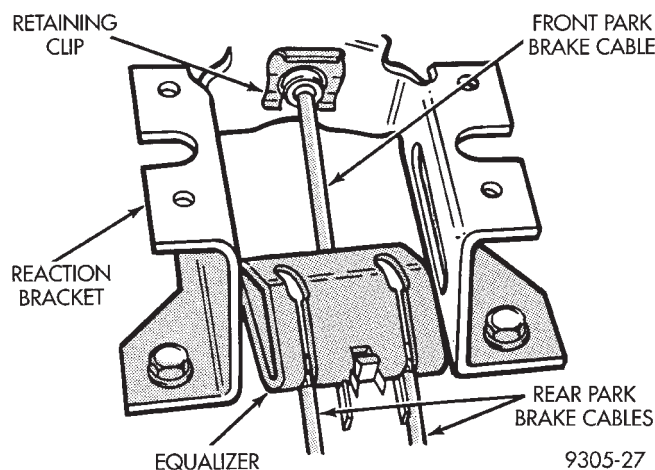

Fig. 14 Front Park Brake Cable Connection At Equalizer
(1) Reload park brake assembly self adjuster, using procedure listed under Reloading Self Adjuster in this section of the service manual.
(2) Remove front park brake cable from park brake cable equalizer (Fig. 14).